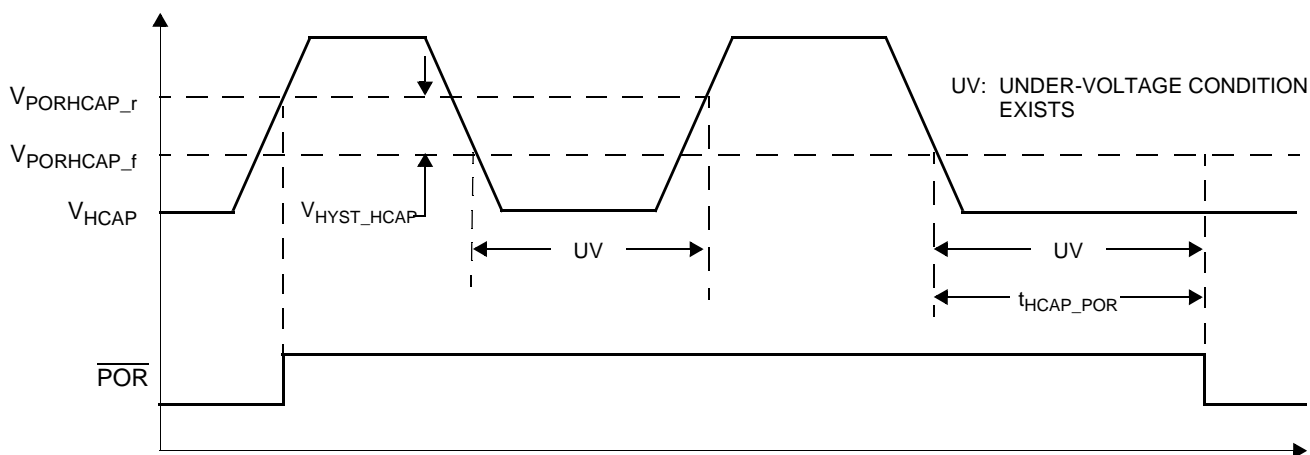

Figure 5.  $V_{HCAP}$  Under-Voltage Detection
| 83  | HCAP Under-Voltage Reset Delay (See Figure 5)$V_{HCAP} < V_{PORHCAP\_f}$ to POR assertion   | $t_{HCAP\_POR}$      | —             | $880 / f_{OSC}$   | —                 | s                       | (7) |